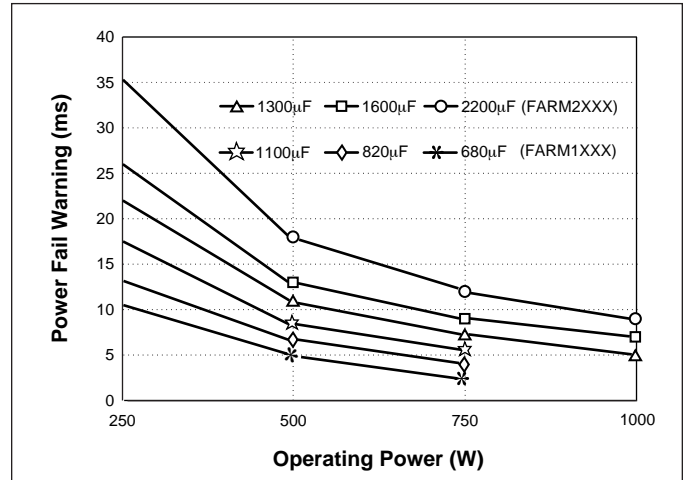

Figure 14—Hold-up time vs. operating power and total bus capacitance, series combination of  $C1, C2$  (see Fig. 9)
Calculated values of bus capacitance for various hold-up time, ride-through time, and ripple voltage requirements are given as a function of operating power level in Figures 14, 15, and 16, respectively.
**Warning.** Figure 14 is used to determine capacitance for a given power fail warning time and power level, and shows that the total bus capacitance must be at least 820  $\mu$ F. Since two capacitors are used in series, each capacitor must be at least 1,640  $\mu$ F. Note that warning time is not dependent on line voltage. A hold-up capacitor calculator is available on the Vicor website, at vicorpower.com.